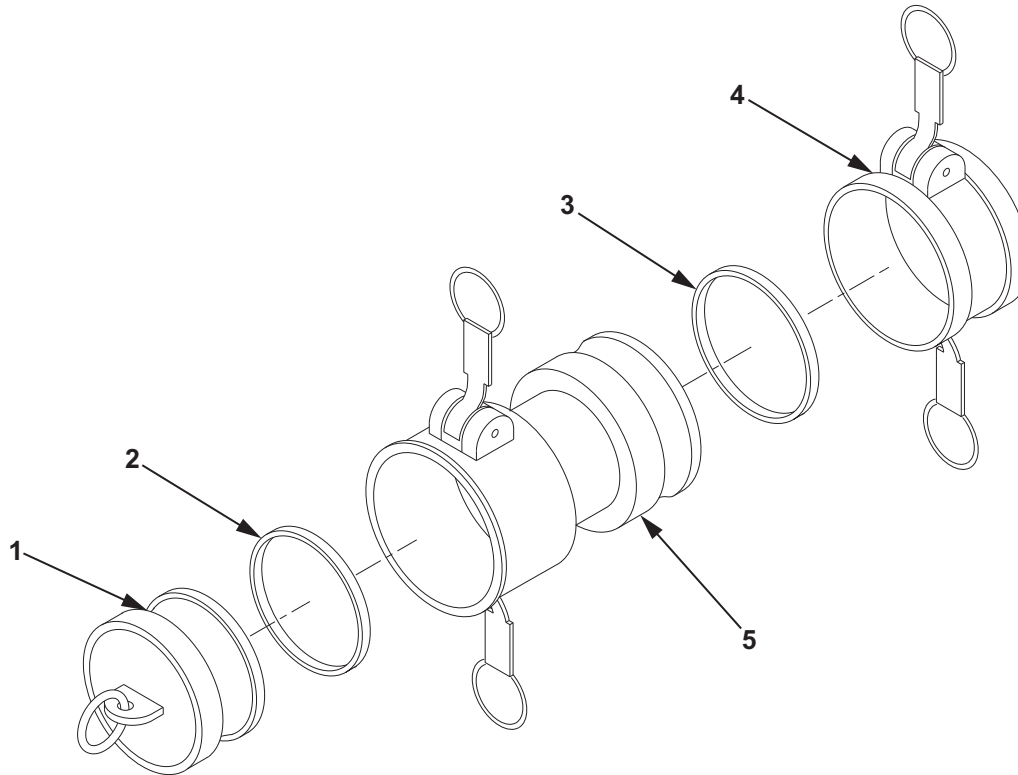

Figure 2. 4 In. Male X 3 In. Female Reducer Assembly.
1. Install new gasket (Figure 2, Item 3) into 4 in. dust cap (Figure 2, Item 4).
2. Install new gasket (Figure 2, Item 2) into reducer assembly (Figure 2, Item 5).
3. Install 4 in. dust cap (Figure 2, Item 4) on reducer assembly (Figure 2, Item 5).
4. Install 3 in. dust plug (Figure 2, Item 1) in reducer assembly (Figure 2, Item 5).